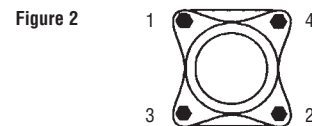

Figure 2
C. Turn the stem (4) to a position with the stem tang flats parallel to the cavity. (Ball will be in closed position and stay in this position through steps D and C).
D. Install the ball (3). NOTE: Ball should be carefully examined for nicks, scratches, pitting or corrosion and replaced as necessary.
E. Put other seat (10) into body, being certain that spherical surface of the seat is positioned against the ball.
F. Press body seals (11) into grooves on face of body.
I. Install and tighten all bolts (14) finger tight.
J. Evenly tighten bolts (14) going around three or four times, alternating sides and in sequence shown in Figure 2. Bolts should be tightened until body (1) and end adapter (2) mating surfaces are metal to metal, but do not exceed torque values listed in Table 2. Do not substitute for original bolts. Replacements may be ordered if necessary.
K. Install handle (8) and handle nut (9).